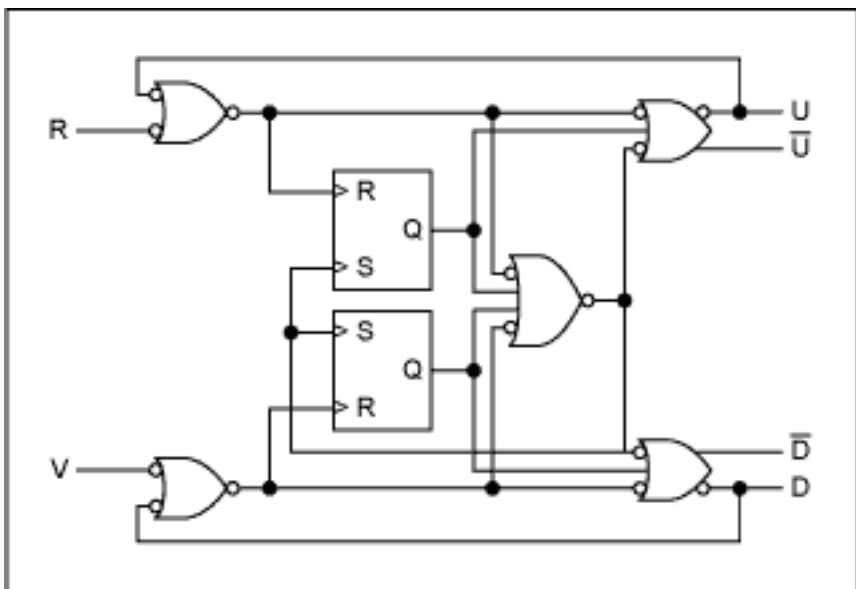
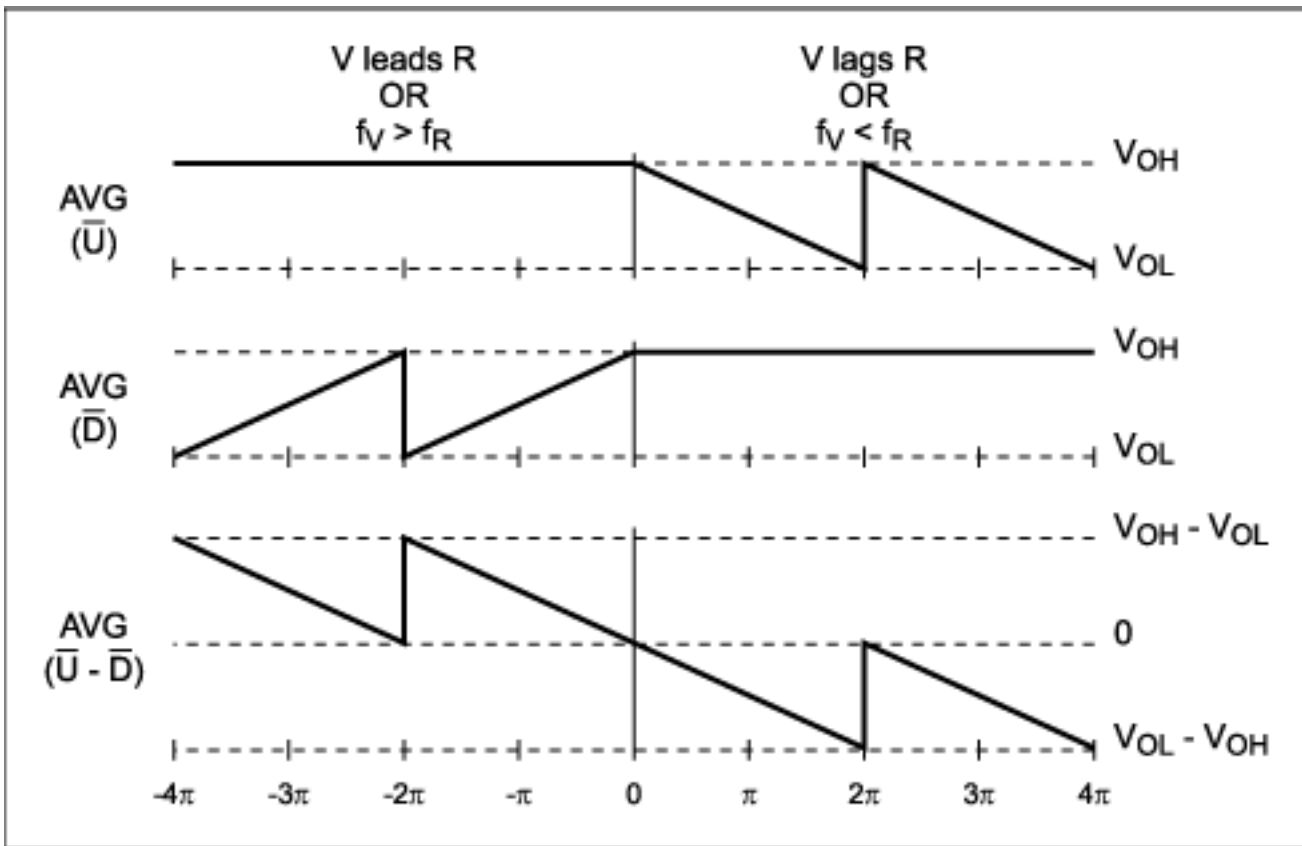

Figure 1. The MAX9382 phase/frequency detector.
Figure 2. Ideal response of the MAX9382 phase/frequency detector.
The MAX9382 converts the input phase difference into a series of variable width pulses on two outputs. These outputs are the "up" and "down" signals required to control the loop filter charge pump. When the two inputs are at dissimilar frequencies, the MAX9382 acts as a frequency detector with the time averaged value of the outputs being a function of the input frequency difference. This behavior greatly improves the loop ability to lock to out-of-band signals. **Figure 1** shows a diagram of the MAX9382. **Figure 2** shows the average (DC) value of the MAX9382 outputs as a function of input phase difference. Equations 1, 2 and 3 show the phase/frequency detector transfer functions when the input frequencies are equal (loop lock condition) and when the inputs are at different frequencies (loop-out-of-lock).